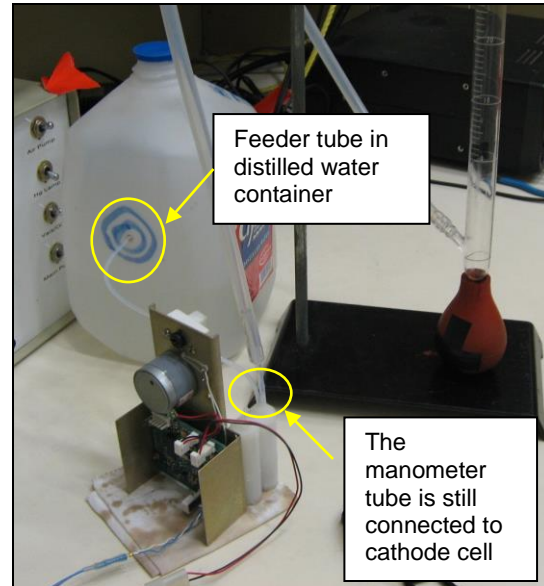

Figure 6 - Setup for wet test
- f. Connect the feeder tube to the distilled water jug, as shown in Figure 6.